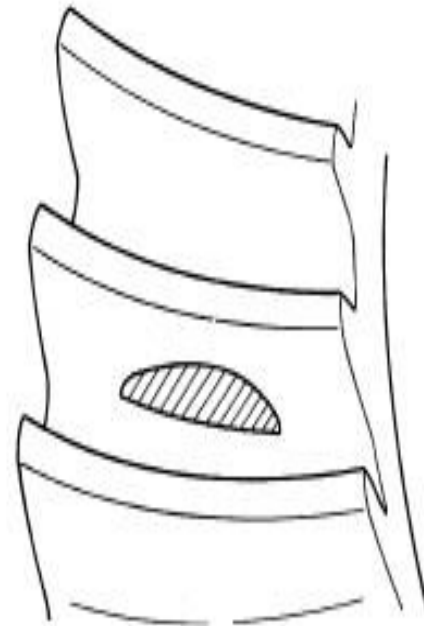

Figure 43
- The pinion gear is set too high. Decrease the pinion depth, by decreasing the pinion depth shim thickness (Figure 43).